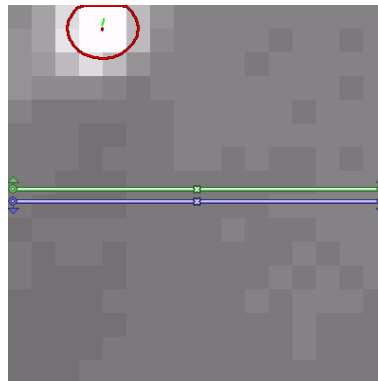

Figure 7.2
2. Counter Assigns Target – target initialised (Figure 7.2) – and target tracking begins.